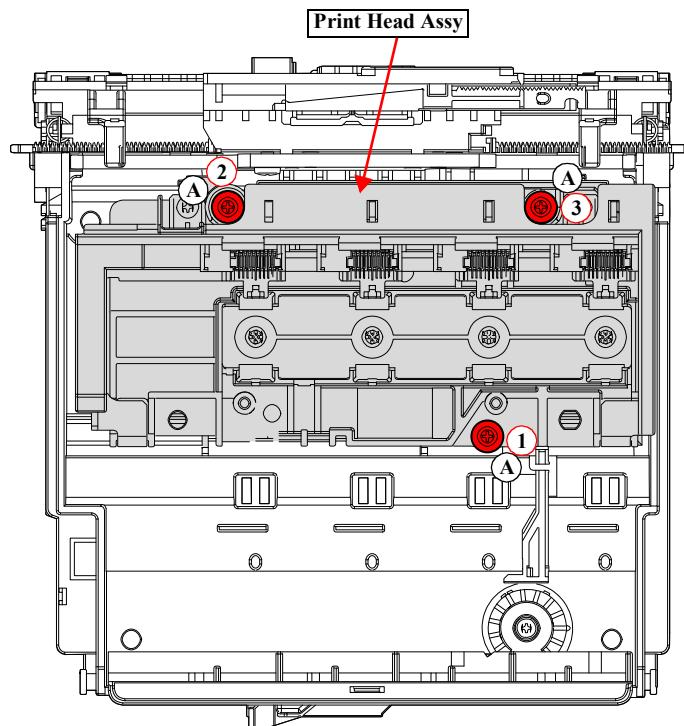

Figure 3-58. Removing the screws
**Tighten the screw on the Print Head Assy in the order given in Figure 3-58.**